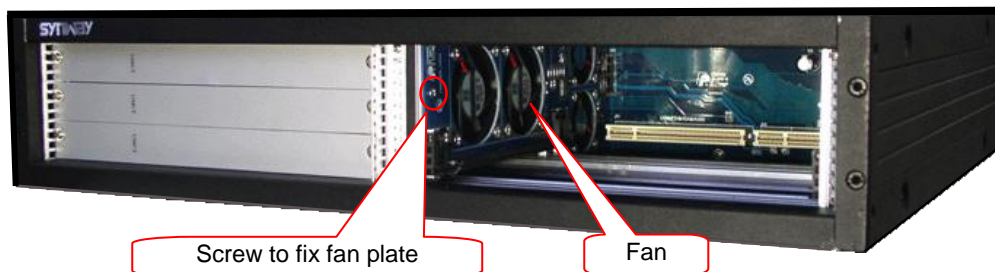

Figure 2-10 Fans Location in 2U Chassis
Step1: Take the SCU out from the chassis and you can see the fans in the switch as shown in Figure 2-10.
Step2: Loosen off the screws shown in Figure 2-10 and draw out the damaged fan plate.